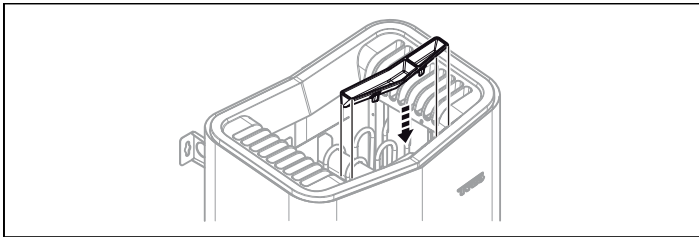

Figure 14: Fitting the fragrance holder/air humidifier
8. Fit herb bowl/air humidifier (see Fig. 14).